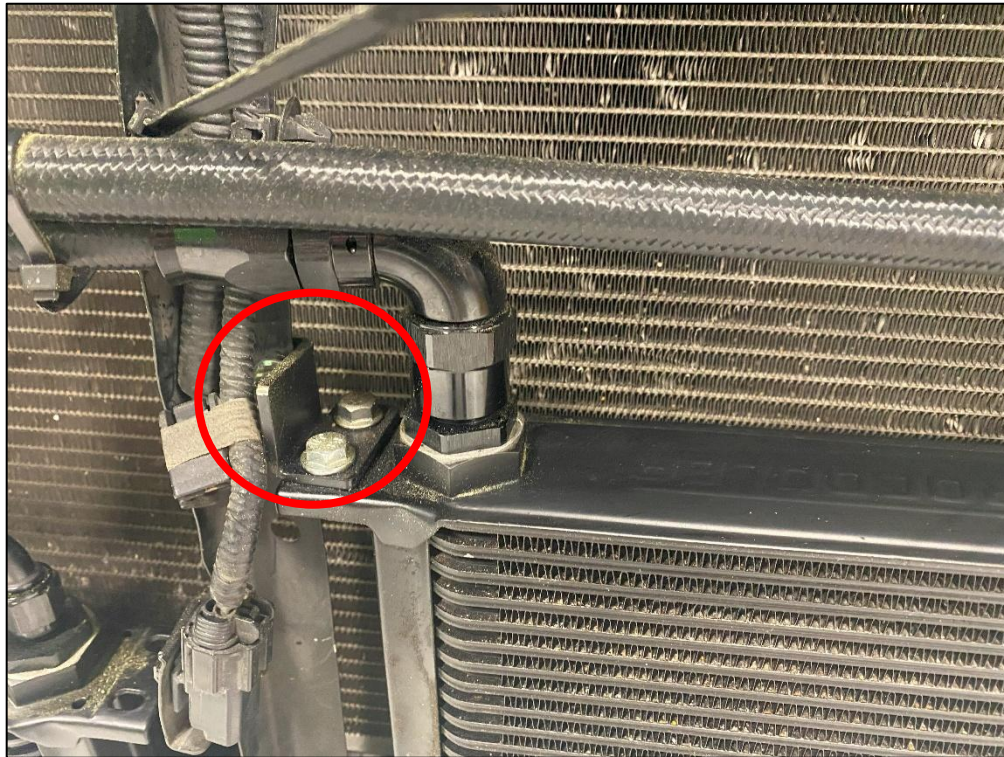

Figure 13
20. Position the Oil Cooler onto the Core Support and check the fitment of the Upper Bracket to the Center Core Support Brace, but do not secure it yet. *Figure 13*.